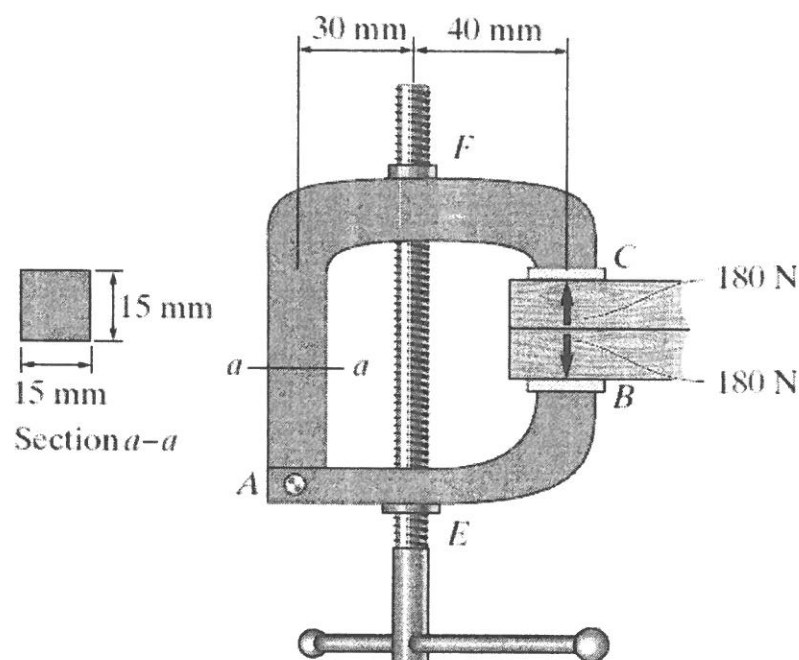

Fig. 2
2. As shown in Fig. 2, the clamp is made from members  $AB$  and  $AC$ , which are pin connected at  $A$ . If it exerts a compressive force at  $C$  and  $B$  of 180 N. The screw  $EF$  is subjected only to a tensile force along its axis.